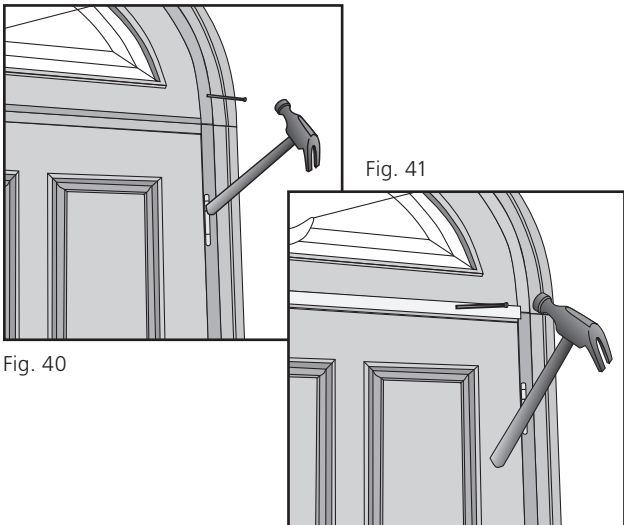

Fig. 41
- M. Measure cut and set mullion covers. Caulk and fasten with 1½" finish nails (**Fig. 41**).